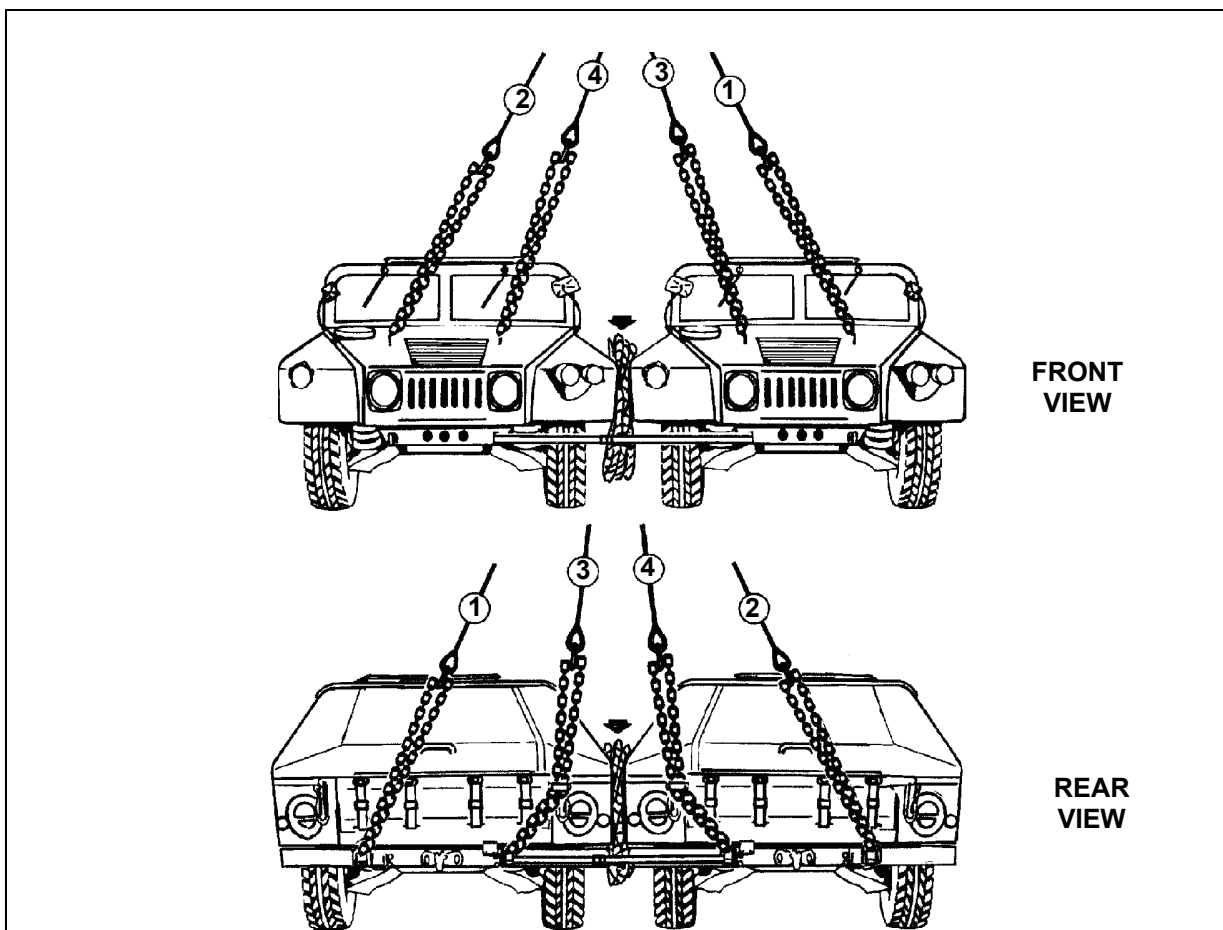

Figure 6-15. Side-by-Side (Shotgun) Load
- Some loads can be carried in the side-by-side (shotgun method) configuration. Side-by-side loads require an additional sling set (Figure 6-15). One sling set is used on the front of the load and the other sling set is used on the rear of the load.